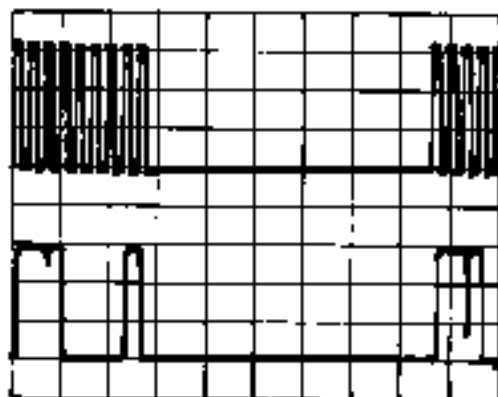

Figure 8-36. A2A10 HNR1 Test Point
22. Connect channel 2 to A2A10TP HNR1. The waveform should be as shown in Figure 8-36.